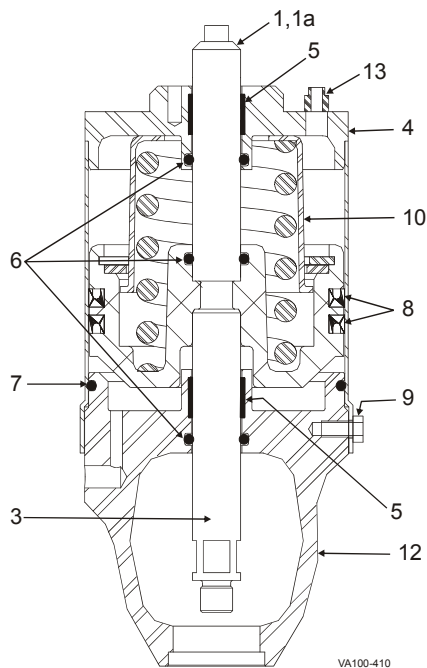

Figure 31: 4" and 5" Actuator
1. Inspect the piston U-cup seal (Figure 31, item 8).
2. Remove the worn U-cup seal. Do not score or nick grooves in the piston (item 10).
6. Place the cylinder over the yoke, and install cap screws (item 9) to secure it.